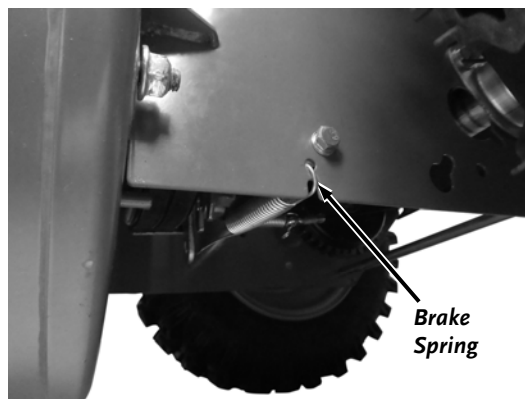

Figure 46
5. Remove the Brake Spring from bottom left side of the Frame so the Brake Pad will come away from the Auger pulley, making room for Belt removal (**Figure 46**).